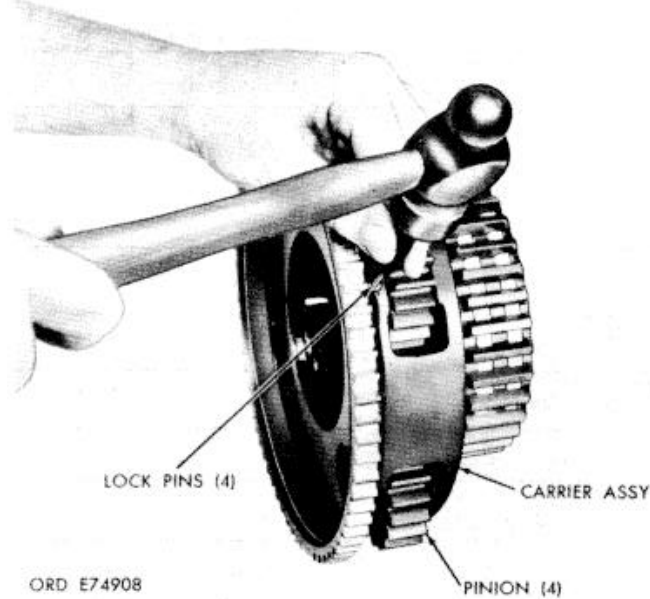

Figure 7-9. Removing spindle lock pins from intermediate range planetary carrier assembly.
d. Remove four pins (31.7, FO-4) from carrier (32), driving them toward the inside of the carrier. Refer to figure 7-9.